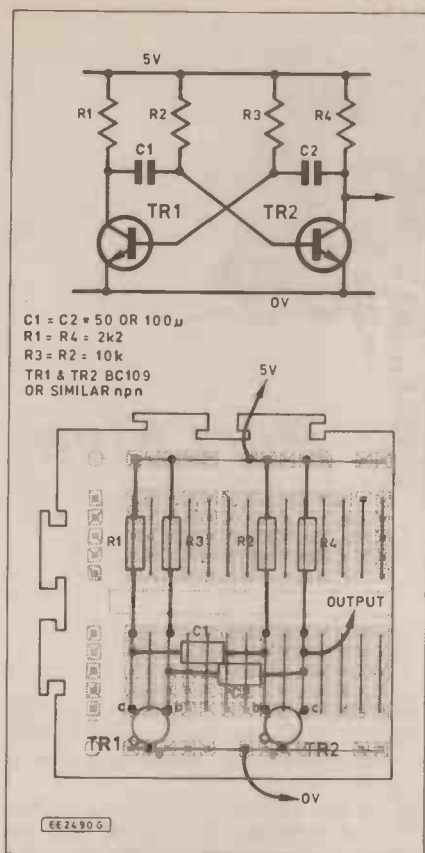

Fig. 5.3. An astable multivibrator using transistors.
**T** Of course. We'll be using them, no doubt. However, it can be instructive to build a circuit using two transistors, such as the ones in your kit. You'll find them in many projects, maybe in this journal. I suggest you use a corner of your breadboard or, better still, a separate small board, for this. Here's the circuit I'd like you to put together now (Fig. 5.3).